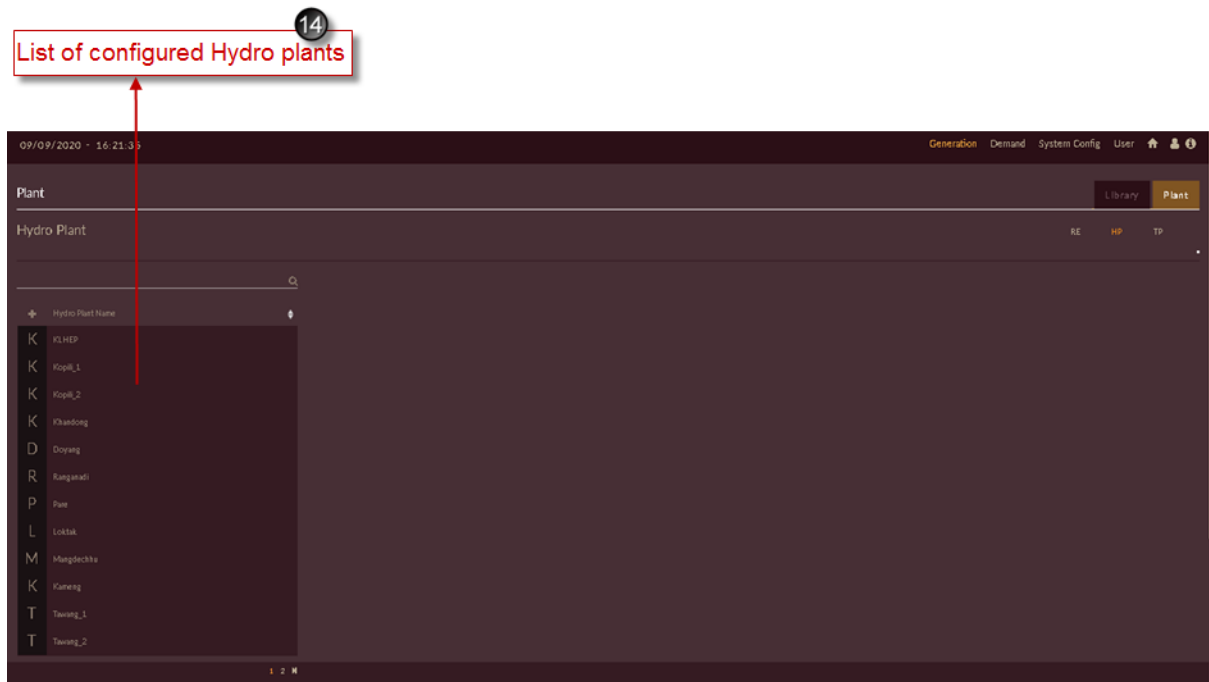

Figure 151. List of Configured Hydro Plants
14. Once all the Hydro plants are added and configured the final Hydro plant - HP page will appear as shown in Figure 151. List of all the Hydro plants will appear on left of the application page.